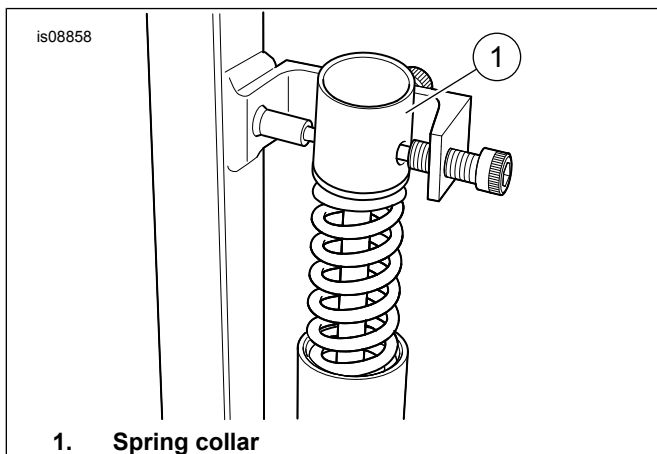

Figure 5. Compress Fork Spring
- d. See Figure 5. Adjust tool as necessary until two retaining pins engage through holes in spring collar (1). Turn length adjustment screw counterclockwise to lengthen and clockwise to shorten.